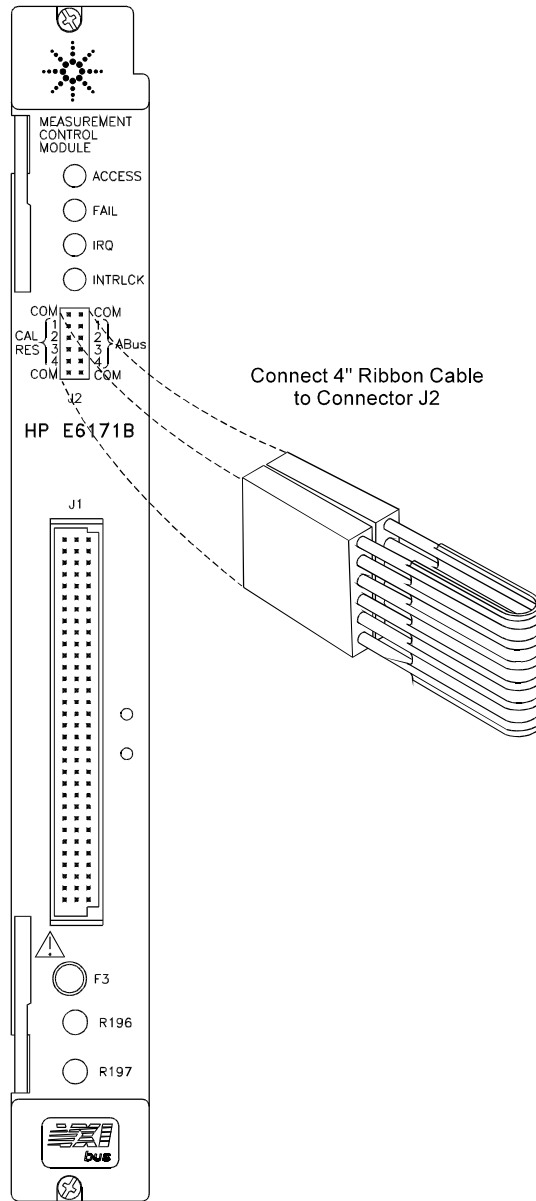

Figure 6-5. Agilent E6171B Calibration Setup
1. Remove the 4" ribbon cable from the J2 connector on the front of the Agilent E6171B module. Fold and connect the ribbon cable to the J2 connector on the Agilent E6171B. See Figure 6-5.